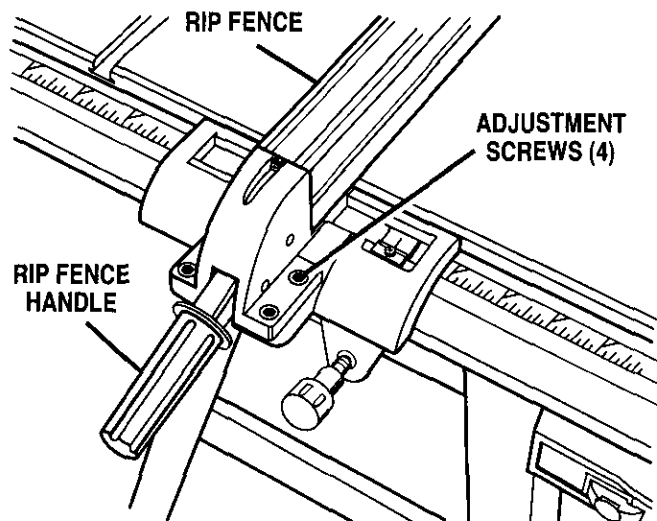

Fig. 40
- If the distances are different, loosen the four screws around the rip fence handle with a 6 mm hex key. Alternate the order (remove the screw opposite, not next to the first one). See Figure 40.